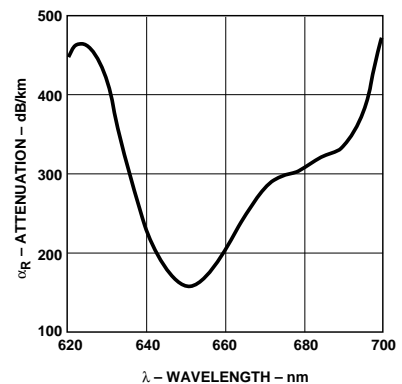

Figure 1. Typical POF Attenuation vs. Wavelength.
7. Note that  $\alpha_R$  rises at the rate of about  $0.0067$  dB/ $^\circ\text{C}$ , where the thermal rise refers to the LED temperature changes above  $25^\circ\text{C}$ . Please refer to Figure 1 which shows the typical plastic optical fiber attenuation versus wavelength at  $25^\circ\text{C}$ .